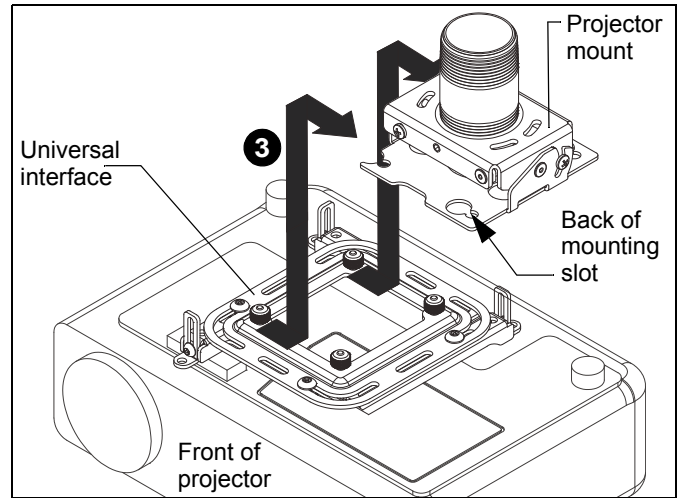

Figure 17
2. Orient projector attached to universal interface with projector mount. (See Figure 17)